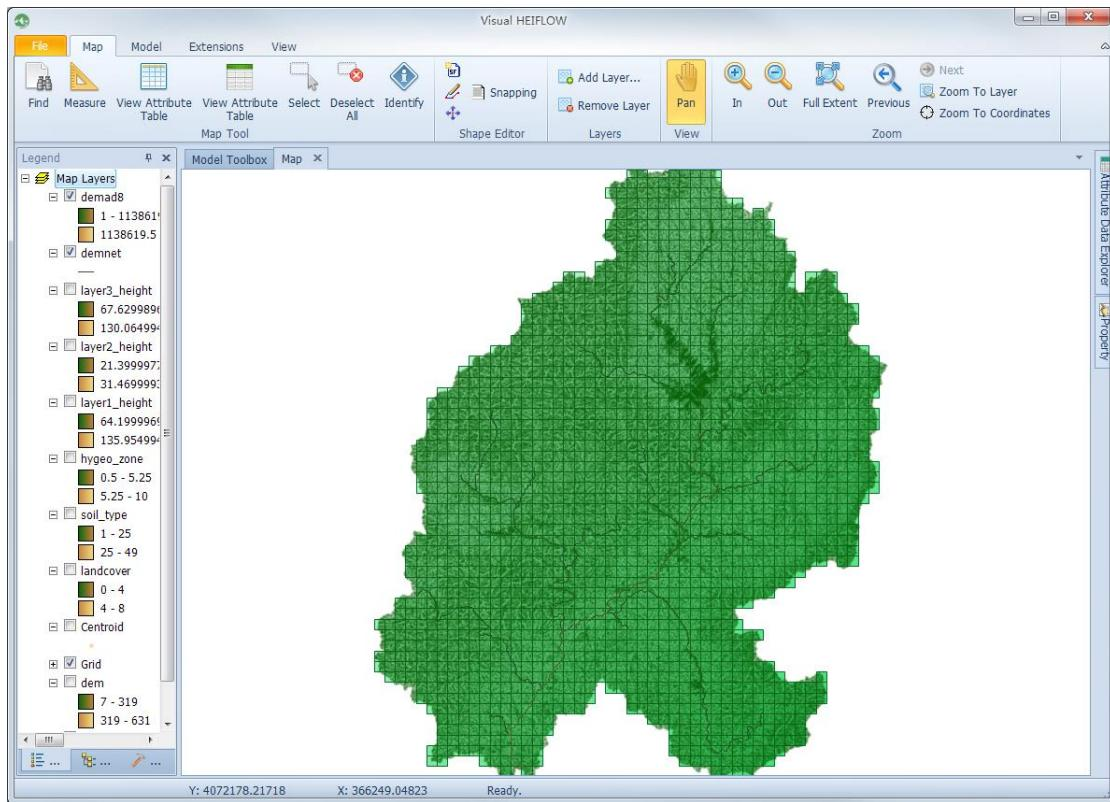

Figure 5-27. Adding “demad8.tif” to the map, this raster represents accumulated drainage area.
- 5) Select Map -> Add Layer..., locate to the current project folder (e.g., C:\Users\Administrator\Documents\MIHO\)) and add the “demad8.tif” placed in the Processing sub-folder (Figure 5-27).